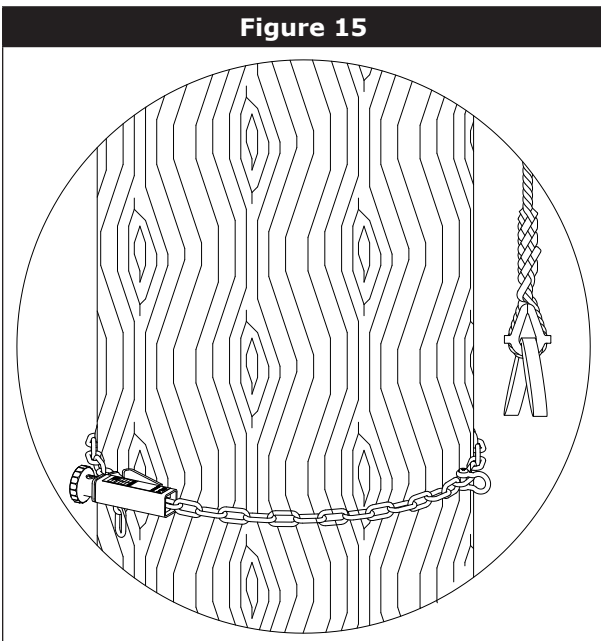

Figure 15
- Step 2.** Insert the Endless Loop Sling midway through the Eye Splice on the Vertical Lifeline Rope so a loop protrudes from each side of the Eye Splice (Figure 15).